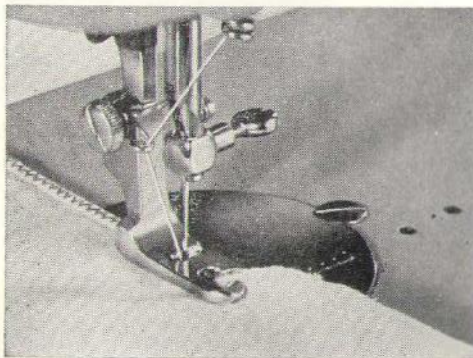

Fig. 33
**NOTE;** Do not crowd the material into scroll and do not leave scroll only partly filled by the material. Feed just enough material into the hemmer foot to fill out the scroll. Also you can make the zigzag hemming operation, by adjusting the width of zigzag seam to be as wide as the hem itself. Using a very long stitch and tighten the tensions will produce a shell stitch. (Fig. 33).